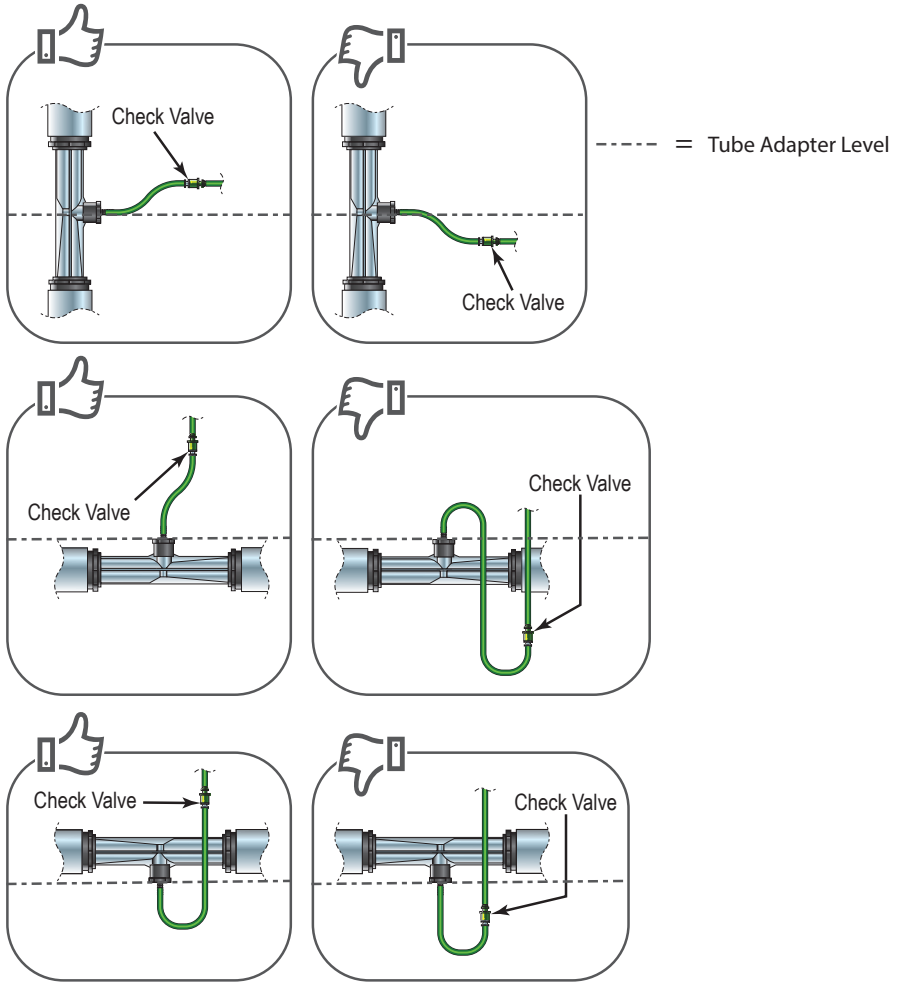

Figure 9. Check Valve Position
24. Ensure that the check valve on the ozone injector tubing is positioned above the tube adapter on the ozone injector. This will prevent water from back flowing and accumulating in the injector tubing. See "Figure 9. Check Valve Position".